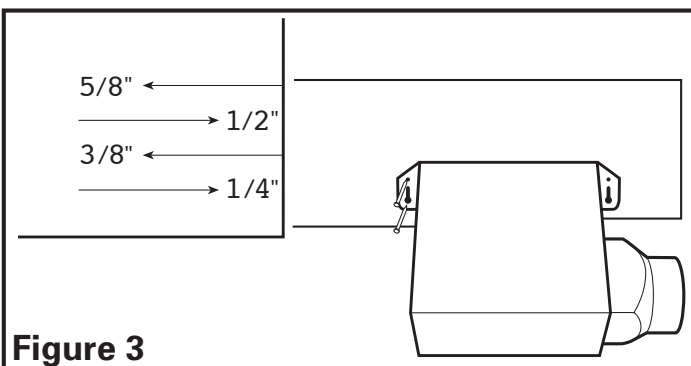

**Figure 2**
4. Select the most convenient electrical knockout and remove using a straight-blade screw driver (**Figure 2**).